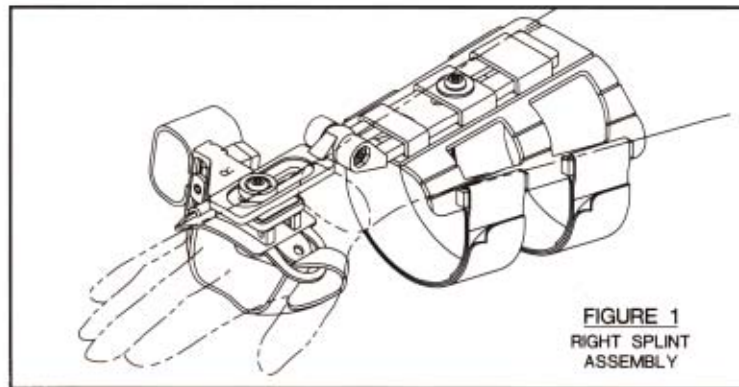

FIGURE 1
STEP 2 SOFTGOODS/SPLINT ASSEMBLY see Figure 1